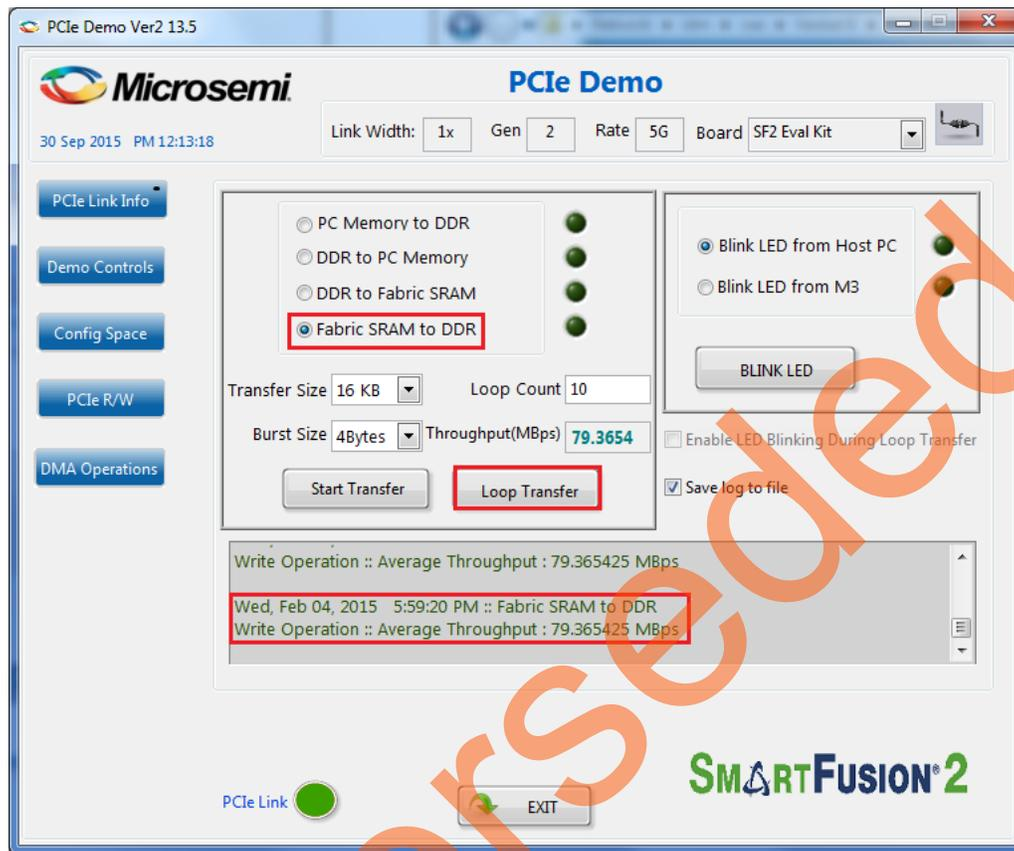

Figure 21 • Fabric SRAM to LPDDR Transfer Throughput
- Select the type of DMA transfer as **Fabric SRAM to LPDDR**, select any **Transfer Size** and click **Loop Transfer** as shown in Figure 21.